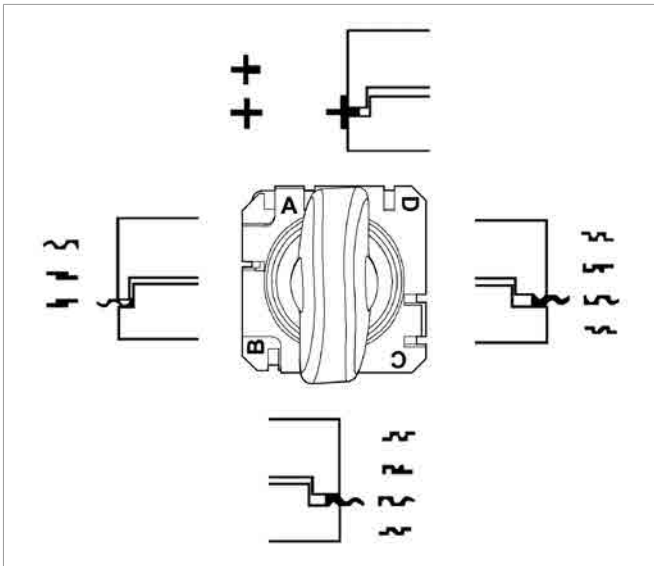
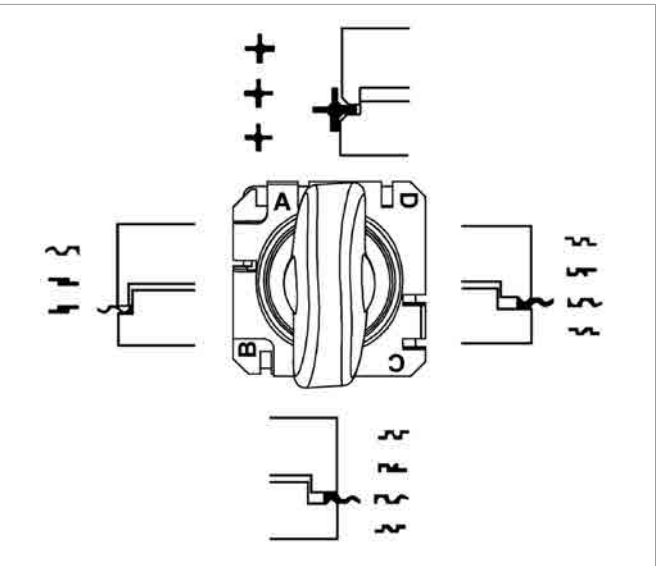

Fig. 19 - 230V version
Fig. 20 - 120V version
- **Side A** of the clamp: for keys to be fitted on their backs, keys with double cuts without groove and cruciform keys (Fig.19 - Fig.20);
- **Side B** of the clamp: for keys placed on their backs and having cuts with a depth of less than 3,9 mm (Fig.19 - Fig.20);
- **Side C and D** of the clamp: for keys to be cut on both sides and locked on the groove (Fig.19 - Fig.20).